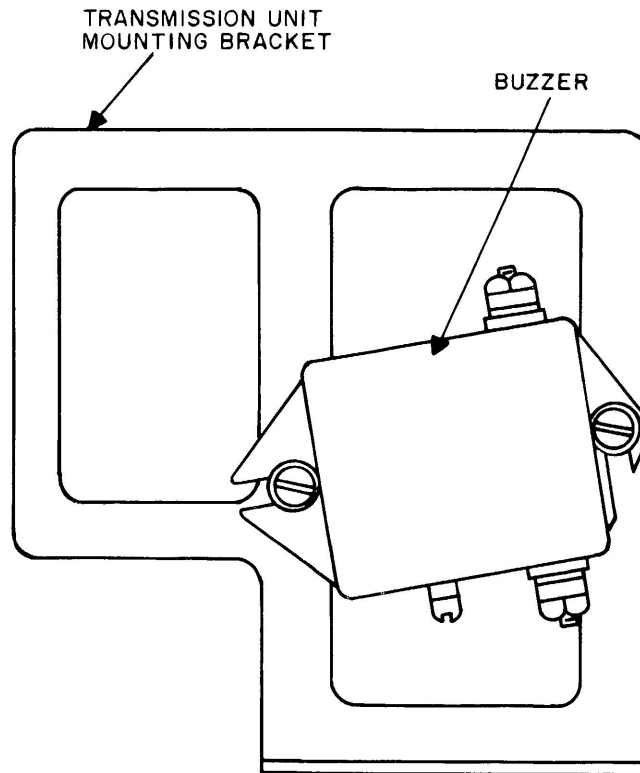

Figure 10. Signaling Buzzer Mounting.
- (3) Using two 6-40 x 3/16 inch long round head steel SEMS machine screws, mount the buzzer on the front of the transmission unit mounting bracket as shown in Figure 10.